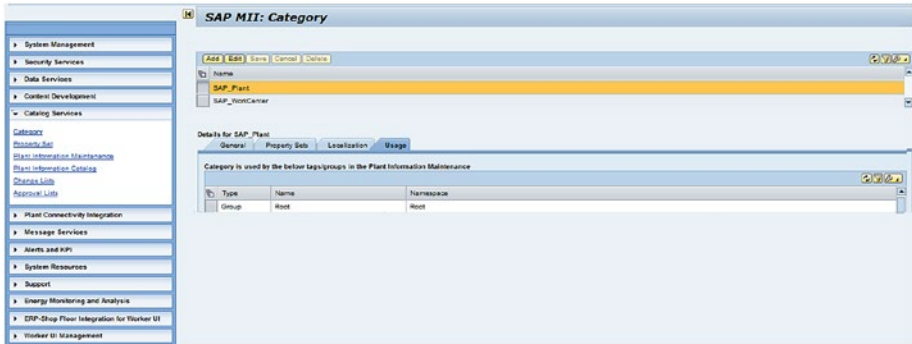

Figure 7-111. Category Usage screen
3. The Usage tab shows the usage of the saved categories in to the system. See Figure 7-111.